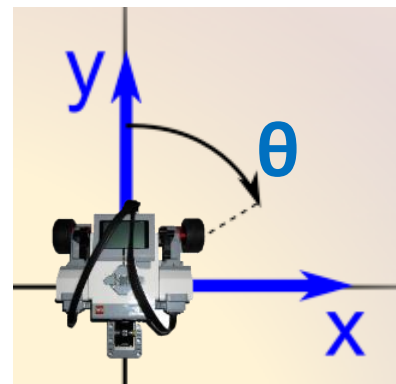
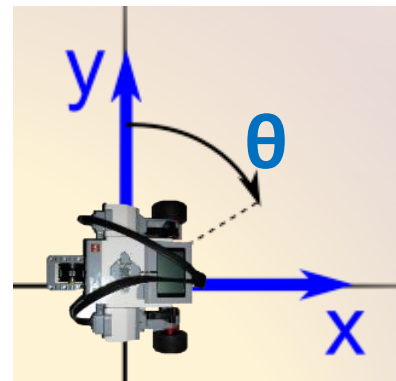

Figure 1. Robot faces due North at 0°
Figure 2. Robot faces due East at 90°
E.g. if the (**X**, **Y**,  **$\theta$** ) convention is set as in **Figure 1**, then:
E.g. if the (**X**, **Y**,  **$\theta$** ) convention is set as in **Figure 2**, then:
**3. Do I have to follow the same (**X**, **Y**, **θ**) convention as in Figure 1 and Figure 2?**